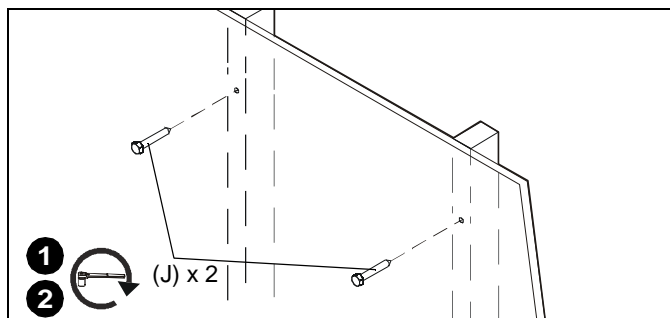

Figure 31
1. Use one 1/4 x 2-1/2" lag bolt (J) through product and into pilot hole. (See Figure 31)